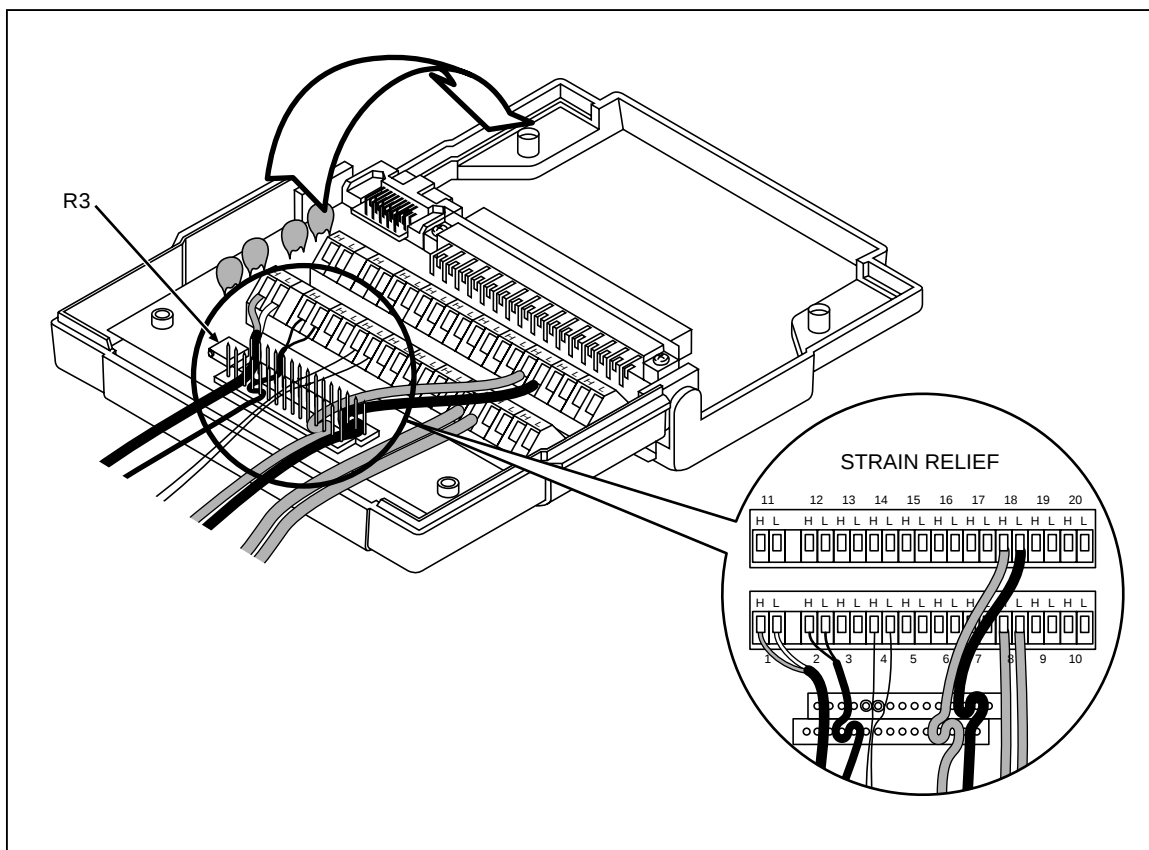
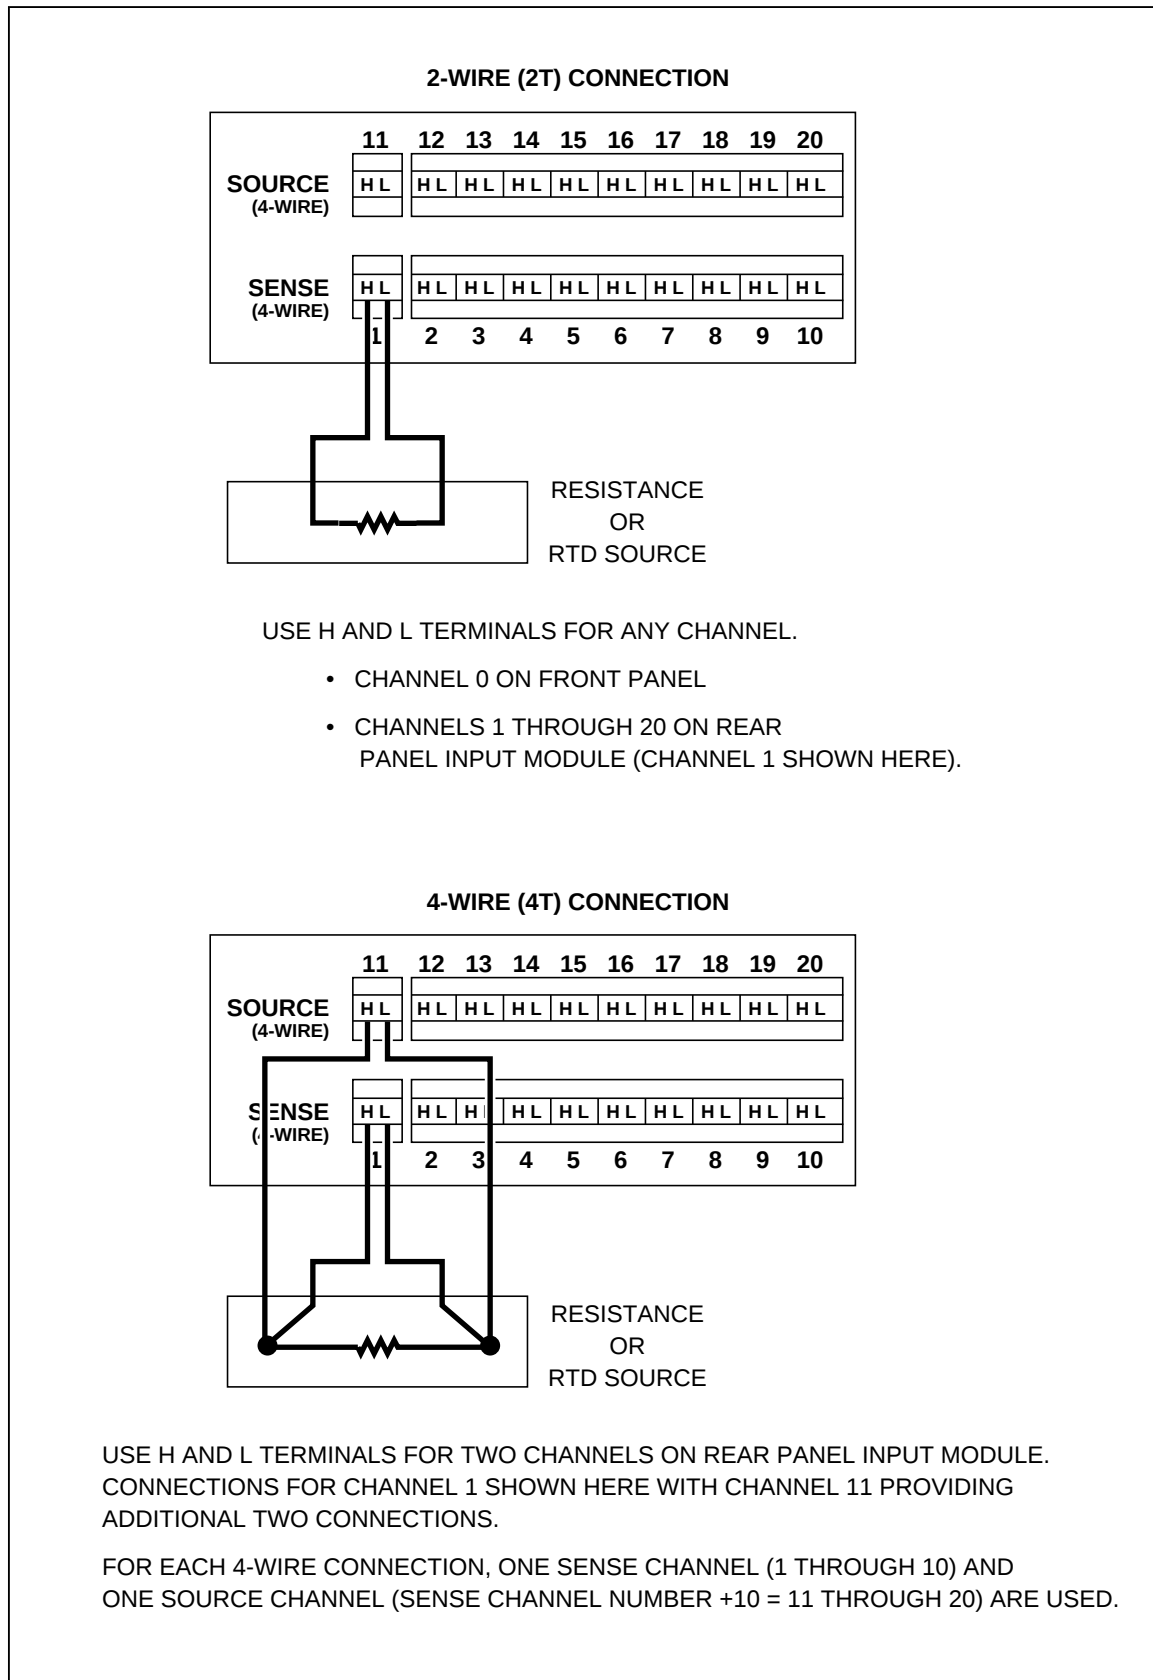

Figure 4-1. Input Module
Figure 4-2. 2T and 4T Connections
3. Observing polarity, connect the channel 1 test leads to the Sense HI and LO terminals of the 5700A and the channel 11 test leads to the Output HI and LO terminals of the 5700A. Route wires with the method shown in Figure 4-1. Connect the wires to the terminals shown in Figure 4-2.
3. Connect the channel 1 test leads to the Output HI and LO terminals on the Decade Resistance Source. For 4-terminal performance testing, also connect channel 11's test leads to the Output HI and LO terminals of the Decade Resistance Source. Connect as shown in Figures 4-1 and 4-2.
4-terminal RTD: Connect the RTD excitation leads (one red and one black wire) to the H (high) and L (low) terminals of channel 11. Connect the second pair of RTD red and black leads to the H and L leads of channel 1. (Refer to Figures 4-1 and 4-2 for proper connection.) Reinstall the Input Module into the instrument.